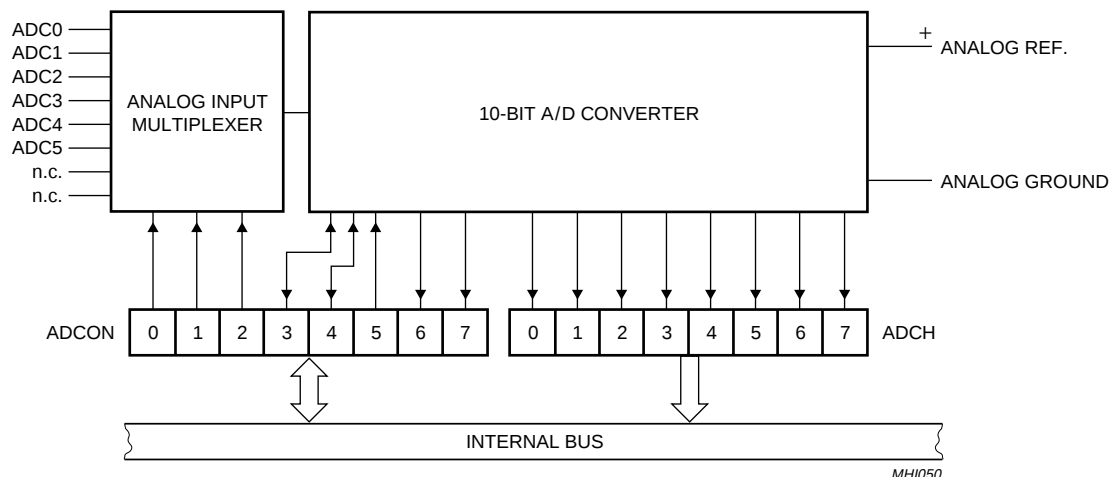

Fig.48 Functional diagram of Analog Input Circuitry.
The analog input circuitry consists of an 6-input analog multiplexer and a 10-bit, straight binary, successive approximation ADC. The A/D can also be operated in 8-bit mode with faster conversion times by setting bit ADC8 (AUXR1.7). The 8-bit result will be contained in the ADCH register. The analog reference voltage and analog power supplies are connected via separate input pins. For 10-bit accuracy, the conversion takes 50 machine cycles, i.e., 25  $\mu$ s at an oscillator frequency of 12 MHz. For the 8-bit mode, the conversion takes 24 machine cycles. Input voltage swing is from 0 V to +5 V. Because the internal DAC employs a ratiometric potentiometer, there are no discontinuities in the converter characteristic. Figure 48 shows a functional diagram of the analog input circuitry.
Figure 48 shows the elements of a successive approximation (SA) ADC. The ADC contains a DAC which converts of a successive approximation register to a voltage ( $V_{DAC}$ ) which is compared to the analog input voltage ( $V_{IN}$ ). The output of the comparator is fed to the successive approximation control logic which controls the successive approximation register. A conversion is initiated by setting ADSC in ADCON register. ADSC can be set by software only.
otherwise the bit being tested is cleared. This process is repeated until all ten bits have been tested, at which stage the result of the conversion is held in the successive approximation register. Figure 48 shows a conversion flow chart. The bit pointer identifies the bit under test. The conversion takes four machine cycles per bit.
Figure 48 shows how the ADC is realized. The ADC has its own analog ground ( $AV_{SS}$ ) and a positive analog reference pin ( $V_{ref+}$ ) connected to each end of the DAC's resistance-ladder. The ladder has 1023 equally spaced taps, separated by a resistance of "R". The first tap is located  $0.5 \times R$  above  $AV_{SS}$ , and the last tap is located  $1.5 \times R$  below  $V_{ref+}$ . This gives a total ladder resistance of  $1024 \times R$ . This structure ensures that the DAC is monotonic and results in a symmetrical quantization error is shown in Figure 48.